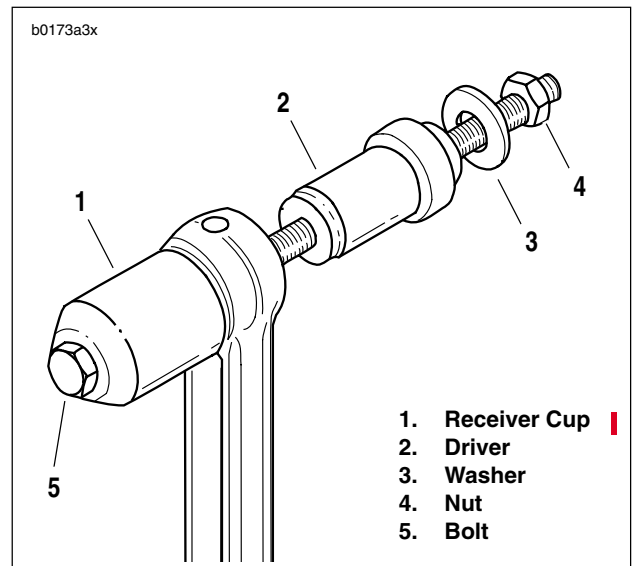

Figure 3-39. Piston Pin Bushing Tool Assembly for Bushing Removal
3. See Figure 3-39. Attach **PISTON PIN BUSHING TOOL** (Part No. HD-95970-32C) to the connecting rod. The receiver cup (1) fits on one side of the rod while the driver (2) fits on the opposite side as shown.